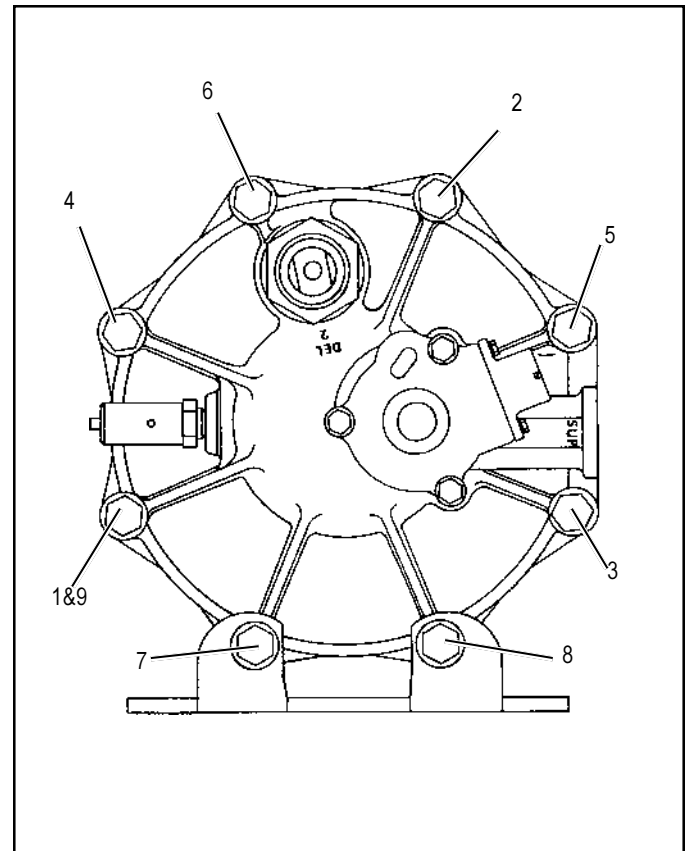

FIGURE 8 - END COVER TO HOUSING TORQUE PATTERN INSTALLATION
4. Install the end cover outer housing o-ring (23) on the shoulder in the end cover. Place the housing (24) over the desiccant cartridge and align the holes. Install the six 3/8" cap screws (16), lock nuts (19) and twelve special washers (17) making certain they are in the proper position as marked during disassembly. The two longer 3/8" cap screws (18) will be used to secure the AD-9 to its mounting bracket. Tighten the six cap screws and nuts in a star pattern in a fashion similar to Figure 8; depending on lower bracket location. Torque to 270-385 in. lbs. (Refer to Fig. 8.) **Note:** The two remaining bolt holes in the end cover and two 3/8" cap screws must be the ones marked during disassembly to assure proper orientation of the ports and adequate length of the cap screws.